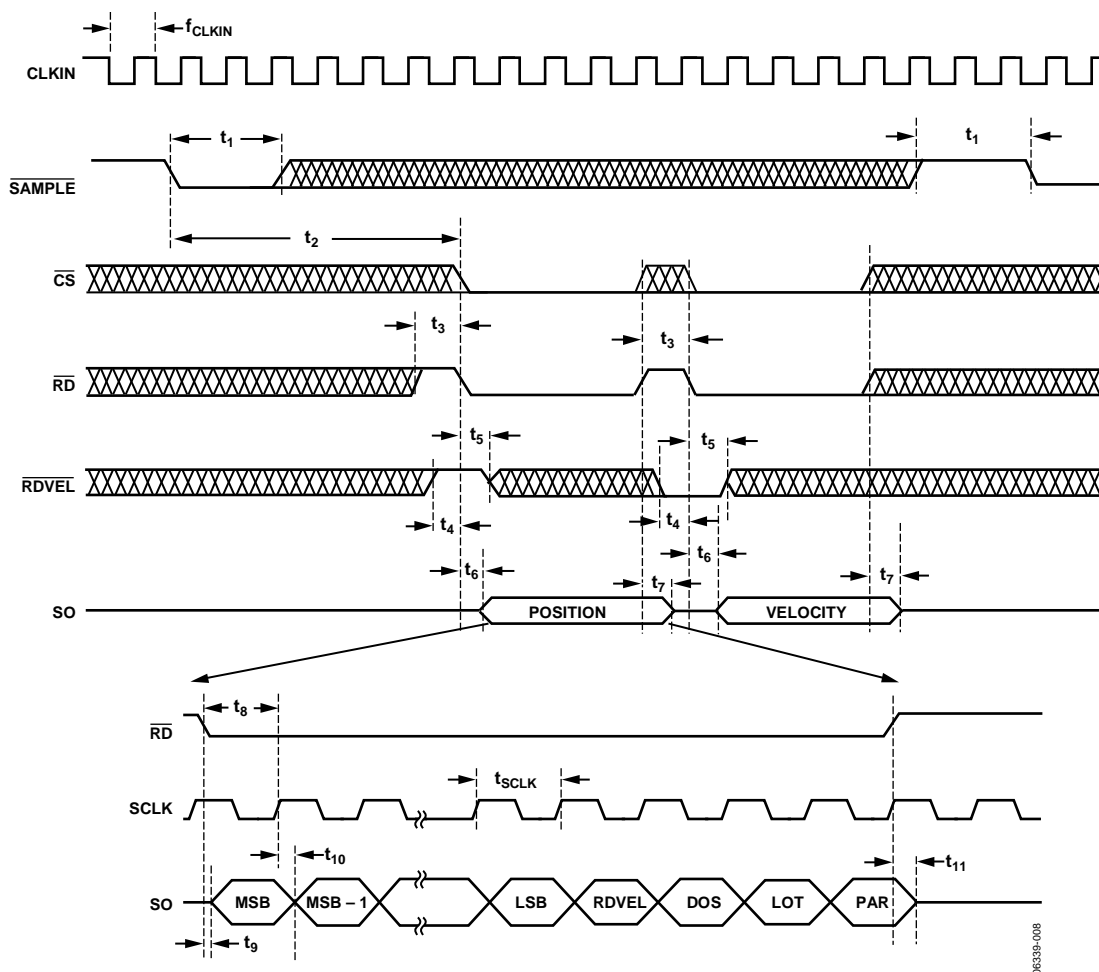

Figure 8. Serial Port Read Timing
The angular position and velocity are available on the AD2S1205 in two 12-bit registers. These registers can be accessed via a 3-wire serial interface (SO,  $\overline{RD}$ , and SCLK) that operates at clock rates of up to 25 MHz and is compatible with SPI and DSP interface standards. The serial interface is selected by holding the  $\overline{SOE}$  pin low. Data from the position and velocity integrators are first transferred to the position and velocity registers using the SAMPLE pin. The RDVEL pin selects whether data is transferred from the position or velocity register to the output register, and the  $\overline{CS}$  pin must be held low to transfer data from the selected register to the output register. Finally, the  $\overline{RD}$  input is used to read the data that is clocked out of the output register and is available on the serial output pin (SO). When the serial interface is selected, DB11 is used as the serial output pin (SO), DB10 is used as the serial clock input (SCLK), and Pin DB0 to Pin DB9 are placed into the high impedance state. The timing requirements for the read cycle are described in Figure 8.
The output shift register is 16 bits wide. Data is clocked out of the device as a 16-bit word by the serial clock input (SCLK). The timing diagram for this operation is shown in Figure 8. The 16-bit word consists of 12 bits of angular data (position or velocity, depending on RDVEL input), one RDVEL status bit, and three status bits (a parity bit, a degradation of signal bit, and a loss of tracking bit). Data is clocked out MSB first from the SO pin, beginning with DB15. DB15 through DB4 correspond to the angular information. The angular position data format is unsigned binary, with all 0s corresponding to 0° and all 1s corresponding to 360° – 1 LSB. The angular velocity data format is twos complement, with the MSB representing the rotation direction. DB3 is the RDVEL status bit, with a 1 indicating position and a 0 indicating velocity. DB2 is DOS, the degradation of signal flag (refer to the Fault Detection Circuit section). Bit 1 is LOT, the loss of tracking flag (refer to the Fault Detection Circuit section). Bit 0 is PAR, the parity bit. The position and velocity data are in odd parity format, and the data readback always contains an odd number of logic highs (1s).